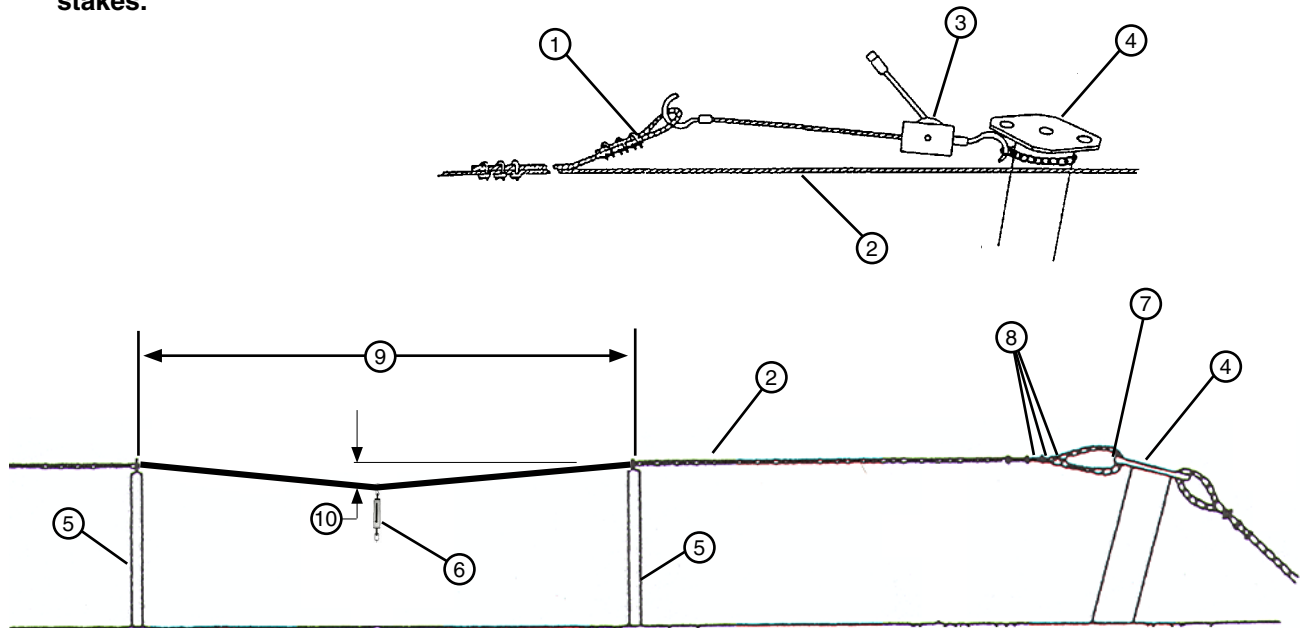

Figure 99-1 1. Pigtail Loop or Smooth Cable Grip
1. Attach a 40 ft to 50 ft pigtail loop or smooth cable grip to the guidance cable. Attach a 2 ton cable puller to the pigtail loop/cable grip and end post. Use the cable puller to apply approximately 2000 lb of tension to the guidance cable. See Figure 99-1.
2. Take a static measurement of the guidance cable distance from the ground at the halfway point between support stakes. See Figure 99-1.
3. Hook a 0 to 50 lb fish scale on guidance cable at the halfway point between support stakes. See Figure 99-1.
4. Pull the fish scale toward the ground, hold it at 33 lb of tension and measure the deflected height of cable from the ground at the halfway point between support stakes. See Figure 99-1.
5. Subtract the deflected measurement from the static measurement. See Figure 99-1.
The guidance cable deflection should be no more than 4 in maximum. If the deflection is more than 4 in apply more tension to guidance cable with cable puller and repeat steps 3 through 5. See Figure 99-1.
6. After setting guidance cable tension, remove slack from guidance cable and attach to the end post with one 3/16 in cable thimble and three 3/16 in cable clamps. Remove cable puller and pigtail. See Figure 99-1.